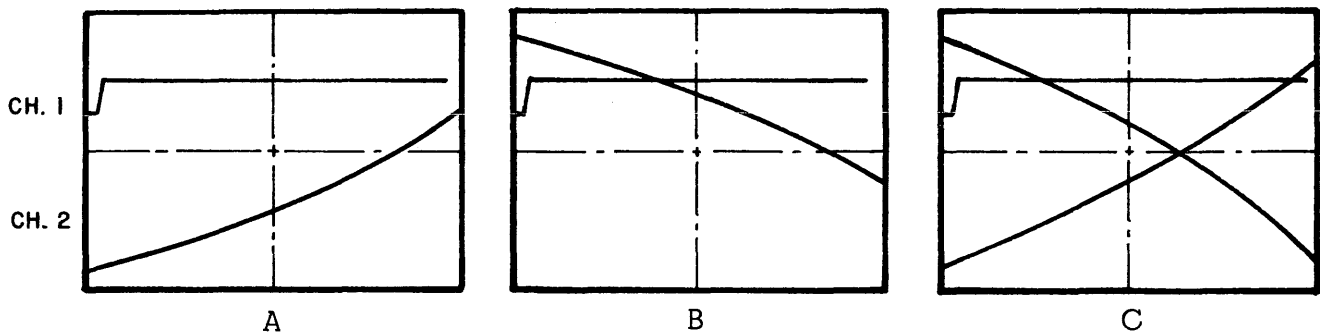

Figure 54. Triggering Method
3. Connect the Channel 1 scope probe to TP103 and the Channel 2 probe to TP102. Set the scope sweeptime at 0.5  $\mu$ sec/cm. One of the patterns shown in Figure 54 will be observed on the screen: